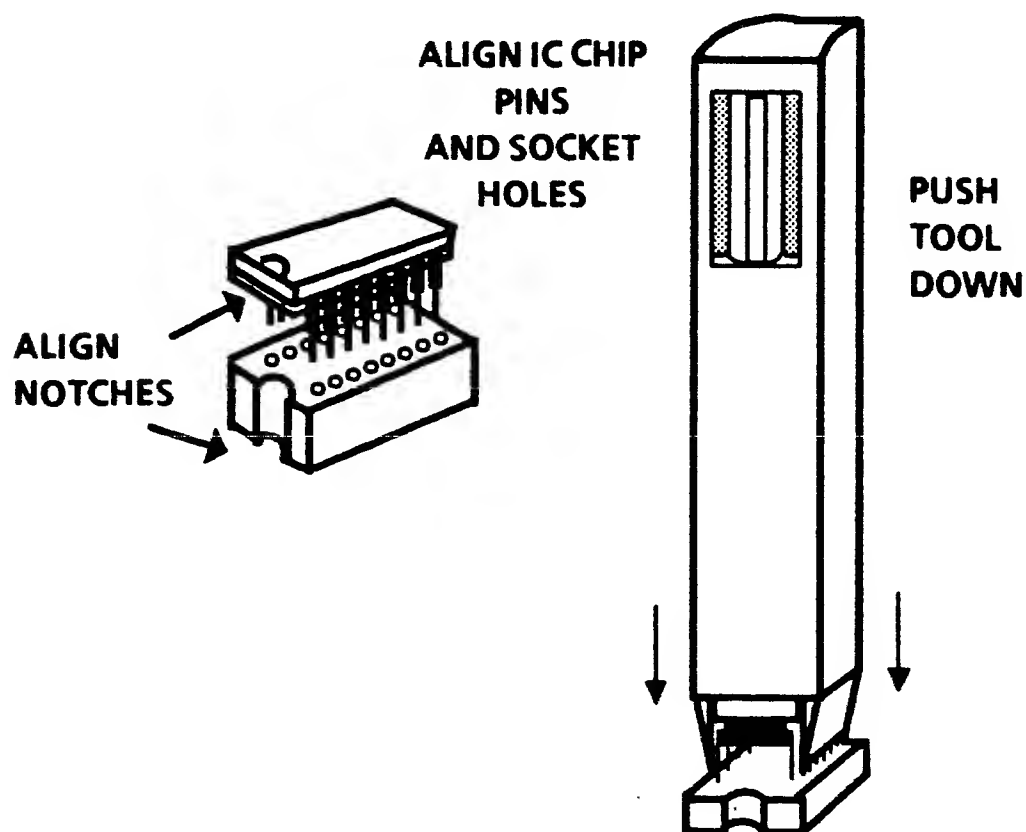

Figure 2-12. Inserting Chip Pins in Socket Holes
5. Push the IC insertion tool down until the IC chip is firmly seated in the socket (Figure 2-12).